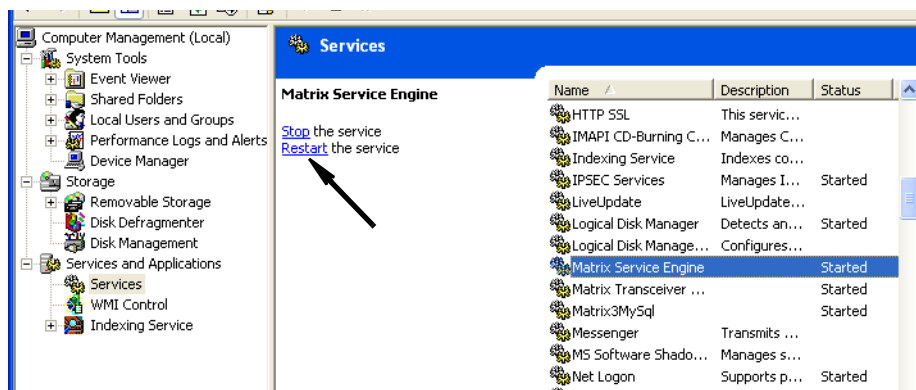

FIG. 62
- k. Click the Restart Service link (FIG. 62).